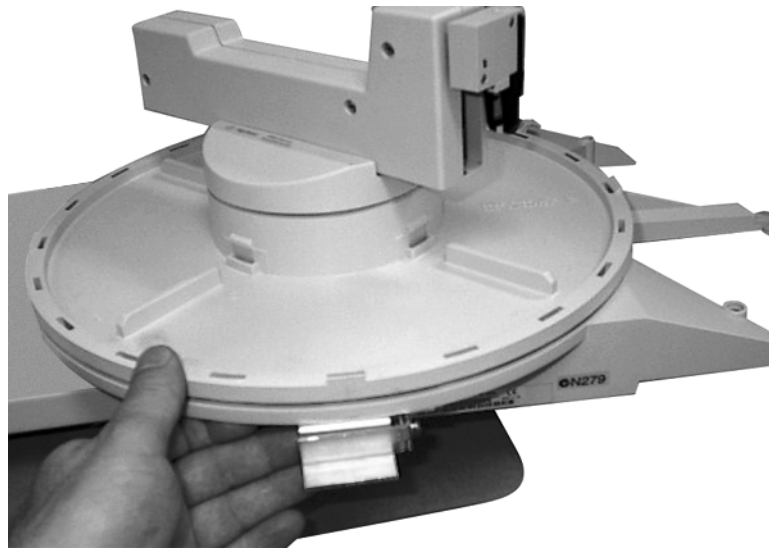
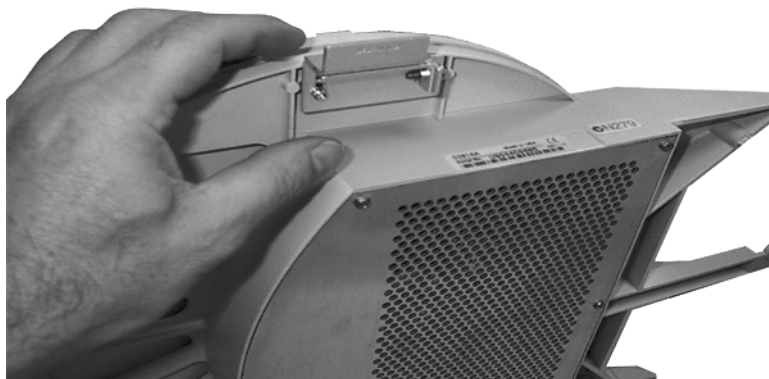

Figure 2. Support bracket installation, top view
Figure 3. Support bracket installation, bottom view
3. Install the Support Bracket Assembly, as shown in Figure 2 and Figure 3, to the underside of the G2614A tray assembly before installing the tray on the 6890 GC. Use the two long hex screws from the kit to attach the support bracket at the pre-drilled and tapped holes provided for mounting the BCR.